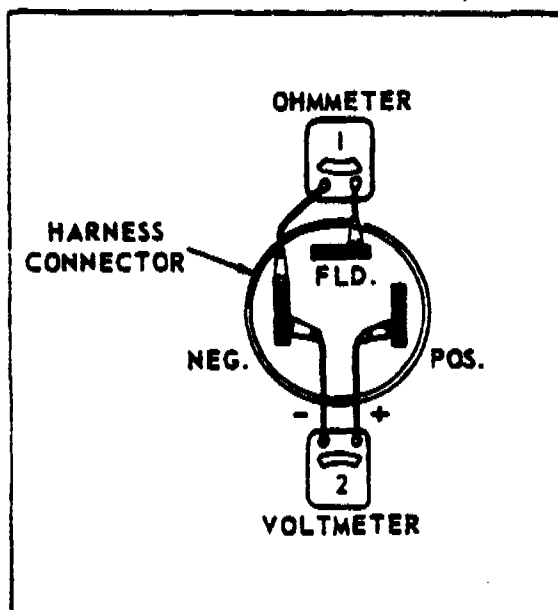

FIGURE 9-24. VOLT - OHMMETER TEST
a. Check the alternator field resistance with an ohmmeter as shown in Step 1, Figure 9-24 and note the reading. Make sure the master switch is OFF. Readings of less than 2 ohms, or more than 8 ohms indicate a defective field winding in the alternator or a defective wiring harness. If the reading is within the 2 to 8 ohm range, check the reading against the allowable resistance in the circuit which can be calculated by dividing the specified voltage for the alternator by the
- b. With switch turned ON, connect voltmeter as shown in Step.2, Figure 9-24. Make sure positive (+) and negative (-) voltmeter leads are connected as shown.